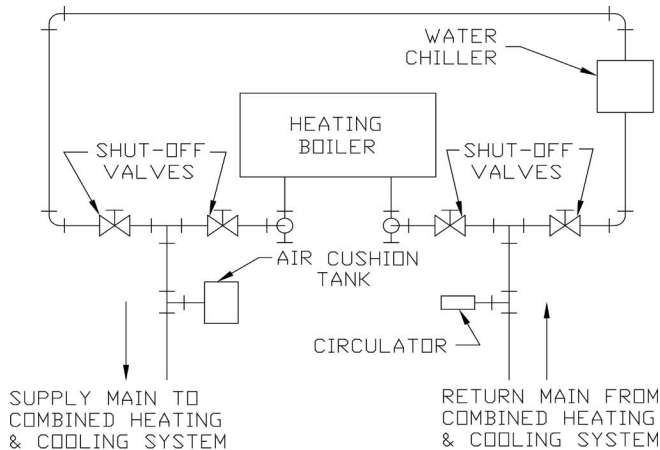

Figure 23: Recommended Piping for Combination Heating and Cooling (Refrigeration) Systems
2. If boiler is used in connection with refrigeration systems, boiler must be installed with chilled medium piped in parallel with heating boiler using appropriate valves to prevent the chilled medium from entering the boiler. See Figure 23. Also consult I=B=R, "Residential Hydronic Heating Installation and Design Guide".